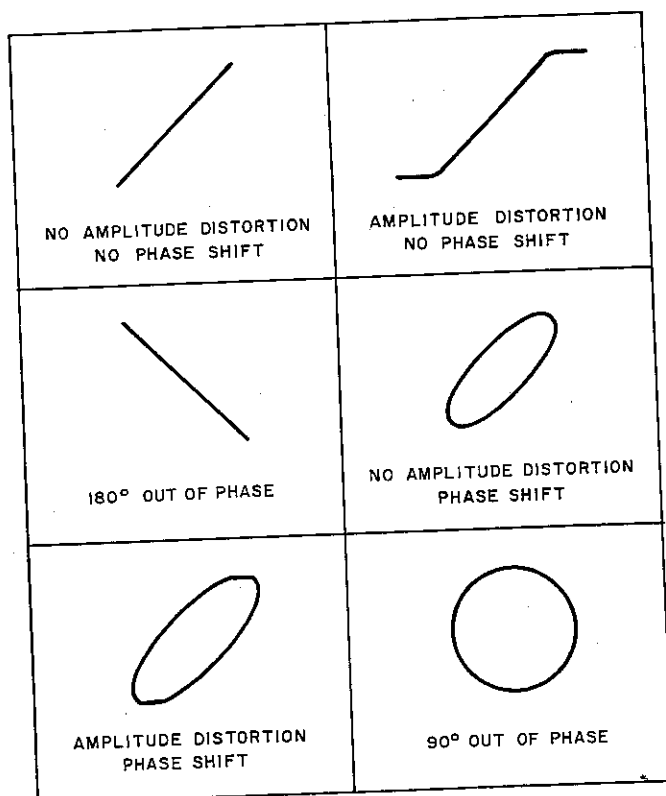

Fig. 25. Typical phase measurement oscilloscope displays.
7. Some typical results are shown in Fig. 25. If the two signals are in phase, the oscilloscope trace is a straight diagonal line. If the vertical and horizontal gain are properly adjusted, this line is at a 45° angle.